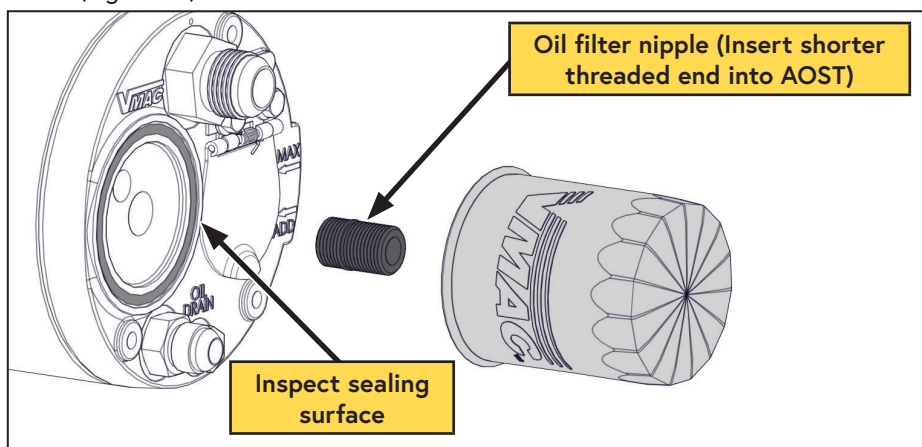

Figure 20 — Compressor oil filter
- ☐ *To reinstall the nipple, thoroughly clean the threads and apply Loctite 242 (blue) to the end with the short threads and replace it in the AOST (Figure 20).
- ☐ Clean the gasket sealing surface on the front of the AOST and inspect it for damage. The surface must be free of old gasket material and smooth to ensure a good seal (Figure 20 on page 33). Apply a thin coat of compressor oil to the rubber gasket on the oil filter.